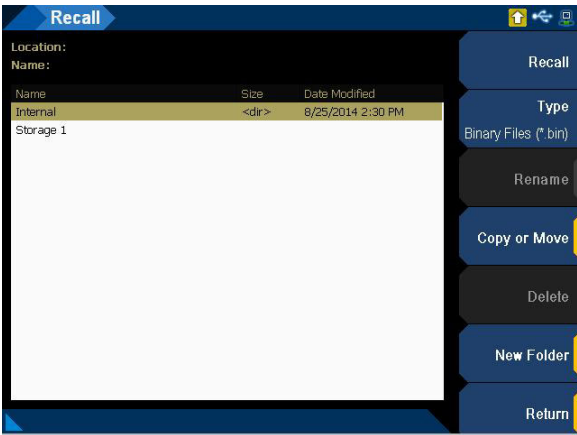

Figure 1-7 Recall menu page
- 6 Select the firmware file to be updated, and press the **Recall** softkey as shown in **Figure 1-7**. Refer to "Recall" on page 95 for more information on the Recall menu page.